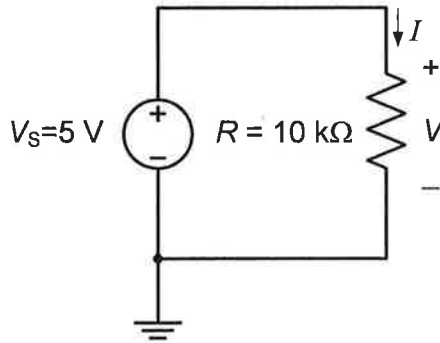
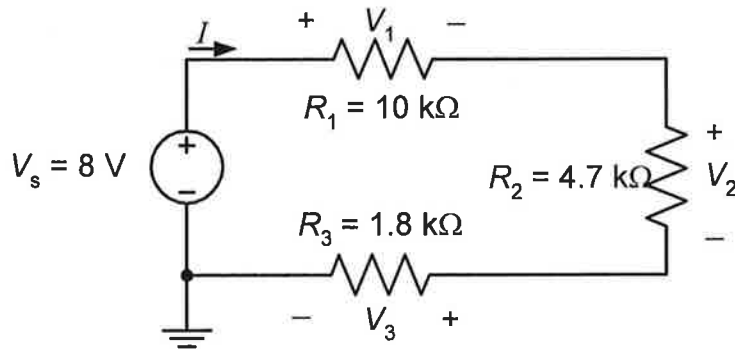
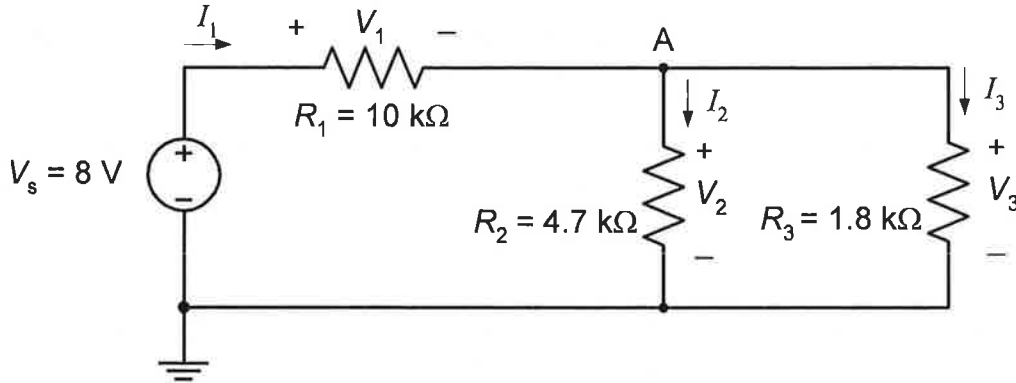

Figure 2. A simple resistive circuit.
Figure 3. Resistors connected in series.
Figure 4. Parallel and series resistors.
**1(a)-Pre-lab Assignment:** Determine the color code for a 10 kΩ resistor with 5% tolerance. For the circuit shown in Figure 2, calculate the theoretical value of the current  $I$  (that is,  $I_{th}$ ). Calculate the power absorbed by the resistor ( $P_R$ ) and the power supplied by the voltage source ( $P_S$ ). Show your work. Present all your results in table format using the appropriate tables provided. (You need to provide the following tables in your lab notebook to summarize your pre-lab calculation results.) The resistors we will use in the lab can safely handle 0.25 W. Is it safe to use a 0.25 W resistor for this circuit? State why. Is the conservation of energy satisfied in this circuit? State why.
Table 4. Color code for the 10 kΩ resistor (Figure 2 circuit).
Table 5. Theoretical resistor, voltage and current values (Figure 2 circuit).
Table 6. Power values calculated (Figure 2 circuit).
Provide the following table in your lab notebook including the measurements and calculated values related to the circuit shown in Figure 2.
Table 7. Theoretical and measured resistor, voltage and current values (Figure 2 circuit).
Table 8. Percentage error in the actual value of the 10 kΩ resistor (Figure 2 circuit).
Construct the circuit shown in Figure 2 using the 5-volt supply in your lab kit (the red terminal). Set the DMM to DC mode and use it to measure the actual values of the voltage  $V$  and the current  $I$  (represented by  $V_{\text{m}}$  and  $I_{\text{m}}$ ). Be very careful to avoid setting your DMM to measure current while it is connected to the power supply or it will short out the power supply and burn up the fuse in the DMM!
Table 9. Percentage error in current values (Figure 2 circuit).
Table 10. Power values calculated (Figure 2 circuit).
In this part of the experiment, we will add two more resistors (1.8 kΩ and 4.7 kΩ) to the circuit shown in Figure 2 to obtain the circuit shown in Figure 3.
Determine the color codes for 1.8 kΩ and 4.7 kΩ resistors with 5% tolerance. What condition must always be satisfied by voltages indicated in Figure 3 based on Kirchhoff's voltage law (KVL)? (Box this condition.)
Table 11. Color codes for the 1.8 & 4.7 kΩ resistors (Figure 3 circuit).
Provide the following table in your lab notebook to tabulate theoretical and measured resistor values related to the circuit shown in Figure 3.
Table 12. Theoretical and measured values of the resistors (circuit in Figure 3).
Measure the actual values of the 1.8 kΩ and 4.7 kΩ resistors in Figure 3 and calculate the % error for each resistor. Are all the % errors less than the tolerance specified by the tolerance color band? Present all your calculation results in table format.
Table 13. Percentage error in the values of 1.8 and 4.7 kΩ resistors (Figure 3 circuit).
Provide the following table in your lab notebook to tabulate the measured voltage and current values in the circuit shown in Figure 3.
Table 14. Measured voltage and current values (circuit in Figure 3).
Set the adjustable power supply (the yellow terminal labeled +1.3 to 15V) in your lab kit to 8V. Then construct the circuit shown in Figure 3. Measure the voltages  $V_s$ ,  $V_1$ ,  $V_2$ , and  $V_3$ . Also measure the current  $I$ . Do the measured voltage values in this circuit satisfy KVL? Using the measured values, calculate the percentage error in KVL defined with respect to the source voltage as
Table 15. Percentage errors in current values (circuit in Figure 3).
Design and perform an experiment to find out if changing the order in which the series components are connected in Figure 3 will change the voltage across the components or the current through the components. Document the experimental setup, results, and your conclusions.
In this part of the experiment, we will change the circuit shown in Figure 3 to the circuit shown in Figure 4.
**3(a)-Pre-lab Assignment:** What condition must the currents at node A (see Figure 4) always satisfy according to Kirchhoff's current law (KCL) ? (Box this condition.)
Provide the following table in your lab notebook to tabulate measured current values in Figure 4.
Table 16. Measured current values (circuit in Figure 4).
Using the same resistors that you used in the last section, construct the circuit shown in Figure 4. Measure the currents  $I_1$ ,  $I_2$ , and  $I_3$ . Do the measured currents in this circuit satisfy Kirchhoff's current law at node A? Using the measured values, calculate the percentage error in KCL defined with respect to the current  $I_1$  as
Design and perform an experiment to find out if changing the order in which the parallel components ( $R_2$  and  $R_3$ ) are connected in Figure 4 will change the voltage across the components or the current through the components. Document the experimental setup, results, and your conclusion.